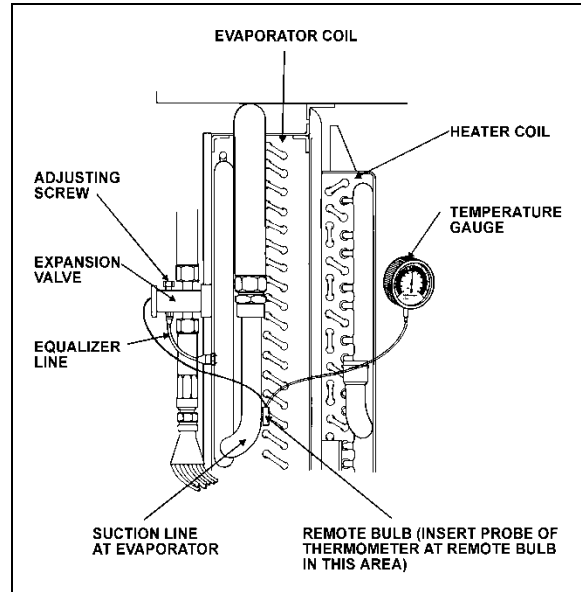

FIGURE 46: SUPERHEAT ADJUSTMENT INSTALLATION 22046
3. Install a remote reading thermometer to the evaporator outlet line near the existing remote bulb (Figure 46).